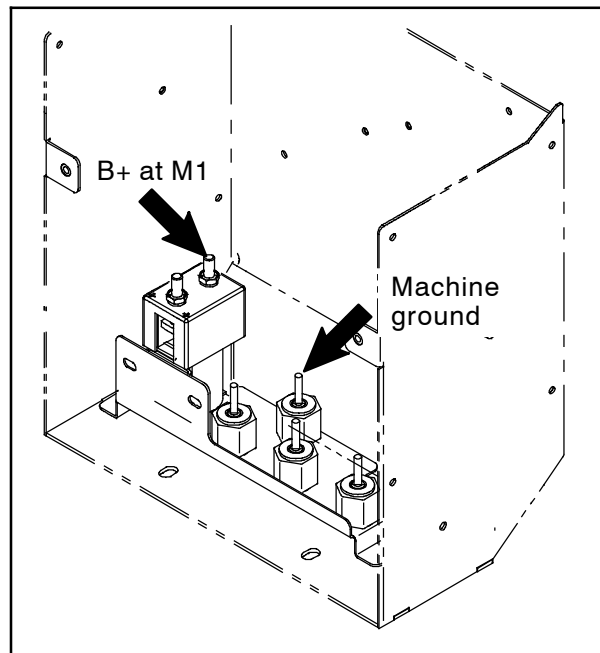

FIG. 3
11. Disconnect the existing battery cable from the 36 VDC B+ at M1 contactor and the insulated ground standoff (machine negative) inside the electrical enclosure. Set all hardware used to secure the battery cable to B+ at M1 and the machine ground aside. Discard the removed battery cable. (Fig. 3)